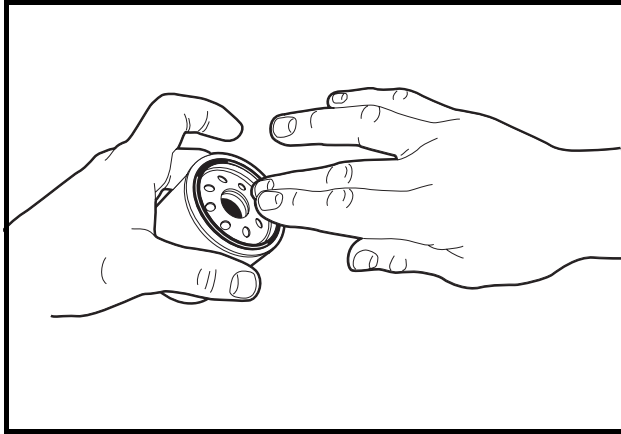

Figure 21 Coat Rubber Seal
13. To help seal the new oil filter to the oil filter mounting bracket, apply a light coat of white lithium NLGI Number 2 grease (Dow Corning® BR2-Plus or equivalent) or new engine oil to the rubber seal around the outside surface of the filter before attaching it to the oil filter port (**Figure 21**). Install the new oil filter (P/N 603 00 00-06) onto the engine oil filter port. **See following NOTE.**